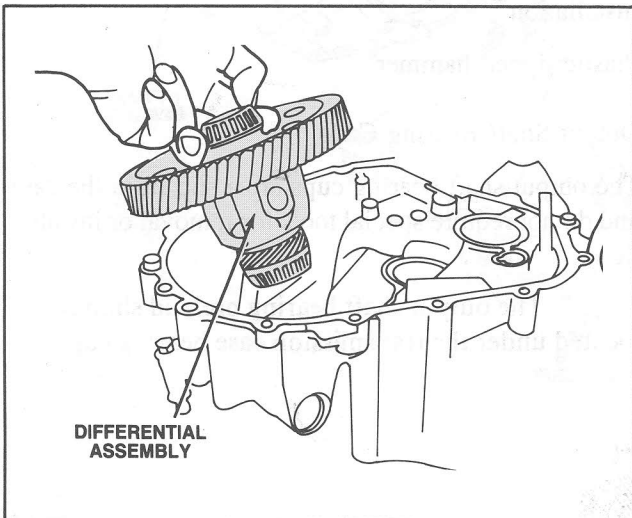

Figure 52 Differential Removal
3. Remove the differential assembly. (Figure 52).